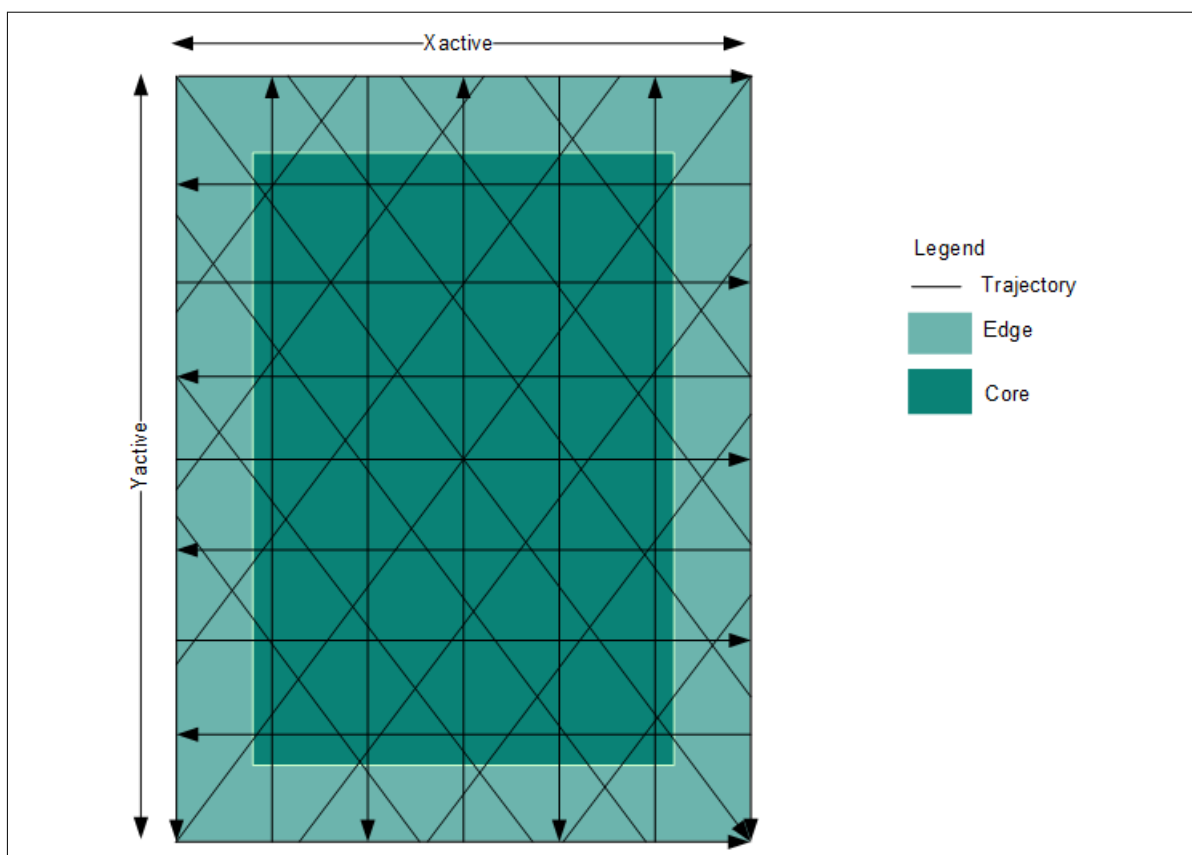

Figure 3 Trajectories for 50 mm/s speed
1. Drag the finger on the panel along the X-axis, Y-axis, and diagonals along the linear trajectories shown in Figure 3 below.